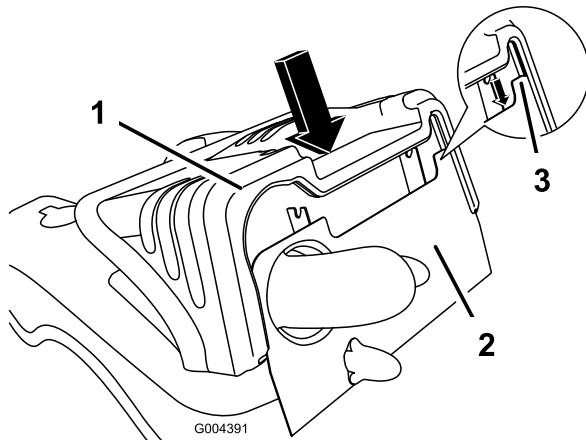

Figure 27
1. To install the hood, align the slot in the hood with the frame and carefully lower it onto the frame (Figure 27). Make sure the frame seated correctly in the engine hood groove before